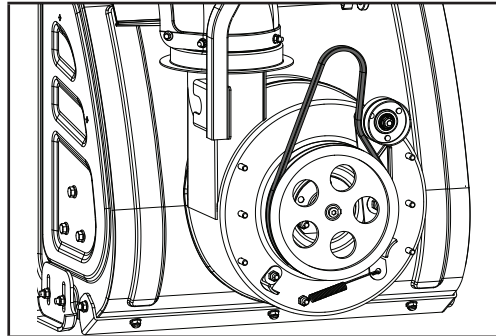

Figure 42
- Slip the drive belt off the pulley. Remove and replace the belt in reverse order ensuring that the new belt is below the spring loaded idler pulley (Fig. 42).